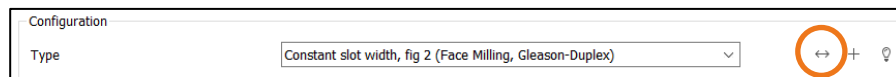

Figure 8. Conversion from GLEASON data sheets
2. Click on «**Convert**» to the right of the Geometry field and input the data (see Figure 8 and Figure 9).